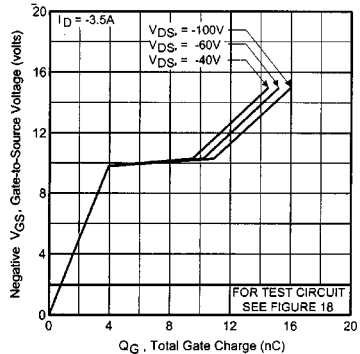

Fig. 11 — Typical Gate Charge Vs. Gate-to-Source Voltage
- ① Repetitive rating; pulse width limited by max. junction temperature (See Figure 11)
- ② Not Applicable
- ③ $I_{SD} \leq -3.5A, di/dt \leq 95A/\mu s, V_{DD} \leq V_{(BR)DSS}, T_J \leq 150^\circ\text{C}$
- ④ Pulse width $\leq 300 \mu s$; duty cycle $\leq 2\%$.